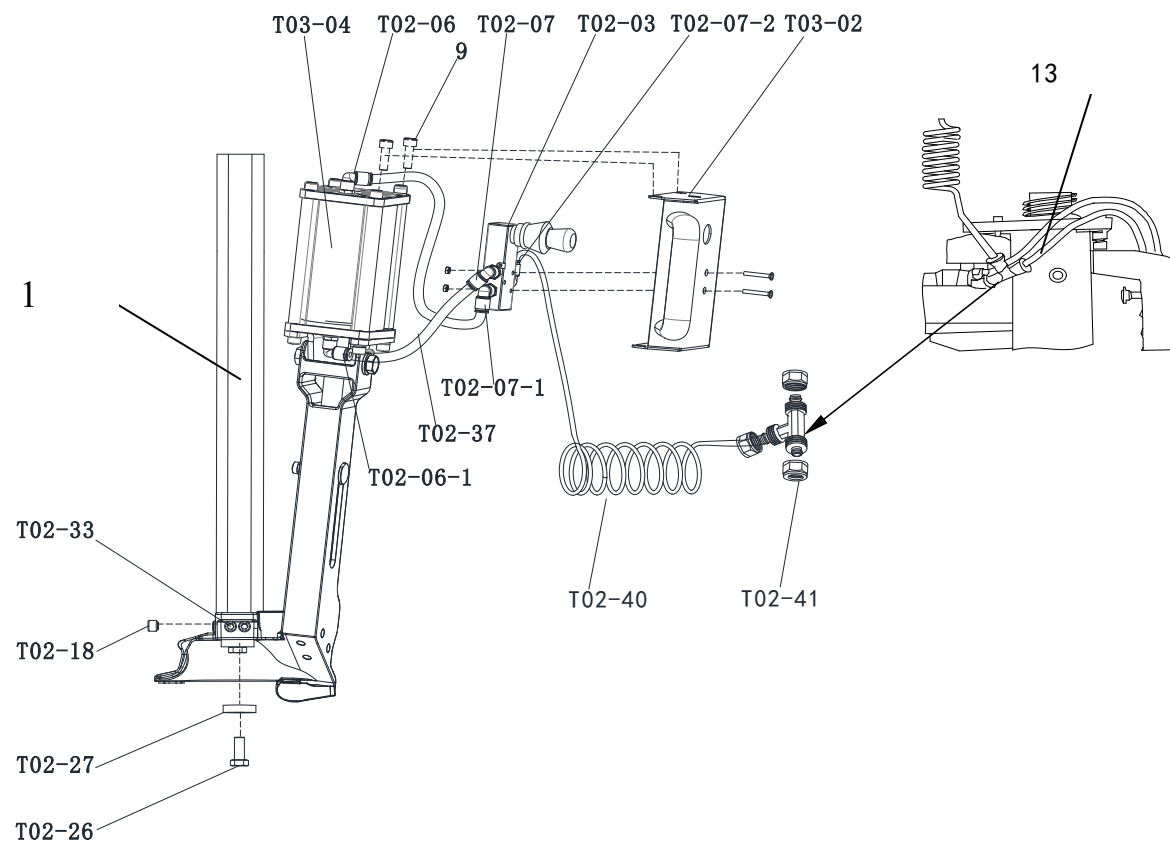

Fig.28
12.3.4. Assembling (Refer to Fig.28)